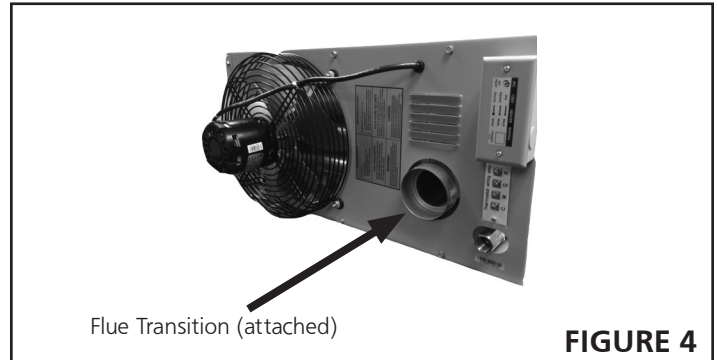

FIGURE 4
- The vent pipe diameter for horizontal commercial installations shall be 4" (76mm). a transition piece has been supplied and is already attached to your heater. Refer to figure 4
- The vent pipe diameter for horizontal residential installations shall be 4" on all units. A transition piece has been supplied and is already attached to your heater. Refer to figure 4